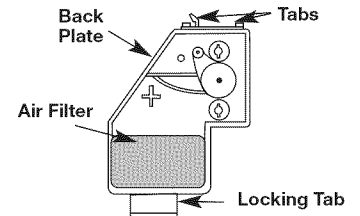

Fig. 27
- Remove the air filter (Fig. 27).
- Replace the filter (Fig. 27).